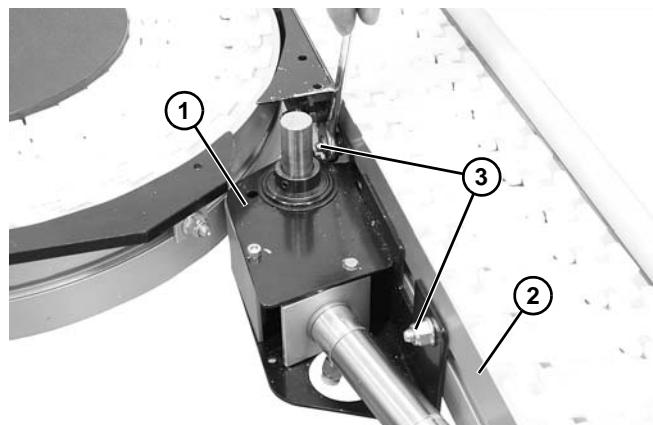

Figure 25
7. Install diverter assembly (**Figure 25, item 1**) to conveyor (**Figure 25, item 2**) with two M8 x 20 mm studs and hex nuts (**Figure 25, item 3**).